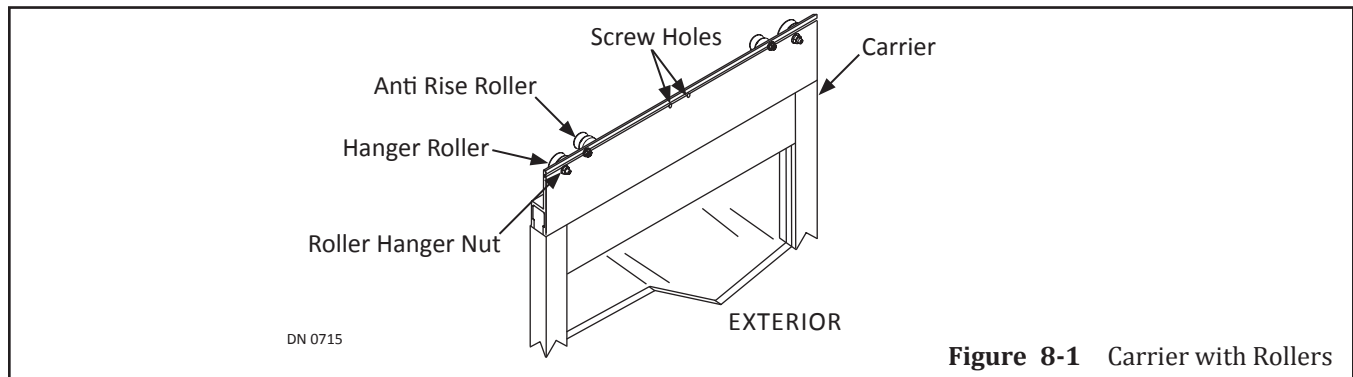

Figure 8-1 Carrier with Rollers
2. Go to the Carrier located on top of the Slide door. Please see Figure 8-1.